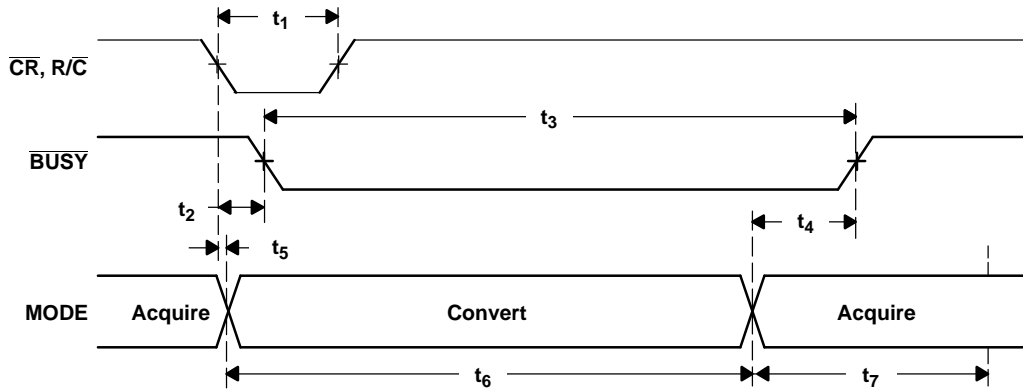

Figure 3. Basic Conversion Timing
(1) See Figure 3 for constraints on previous data valid during conversion.